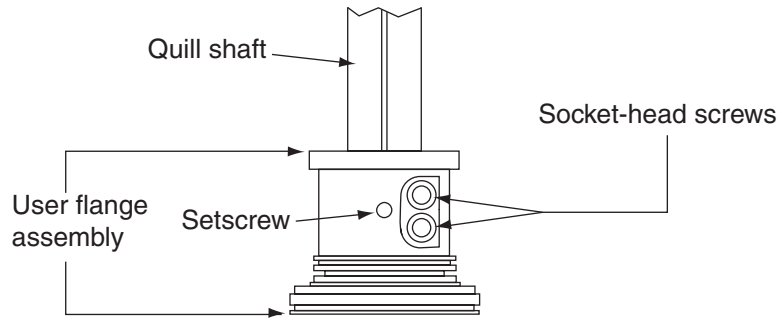

Figure 7-1. User Flange Removal Details
3. Use a 2.5 mm Allen driver to loosen the setscrew (see Figure 7-1 on page 138). Note the vertical-spline groove that is in line with the setscrew. You must replace the flange in the same position.